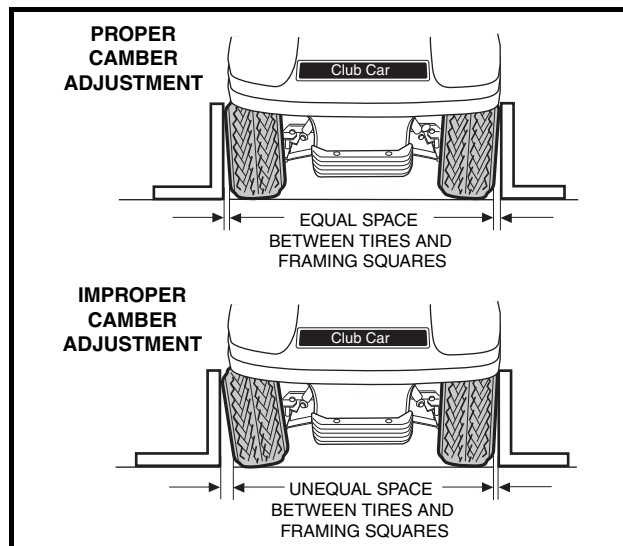
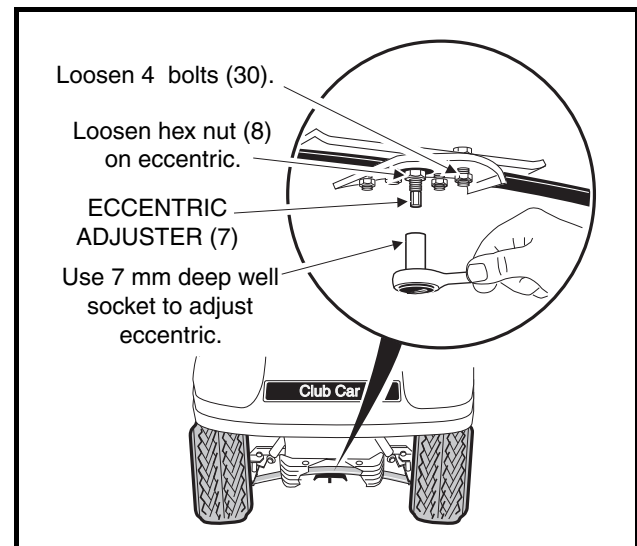
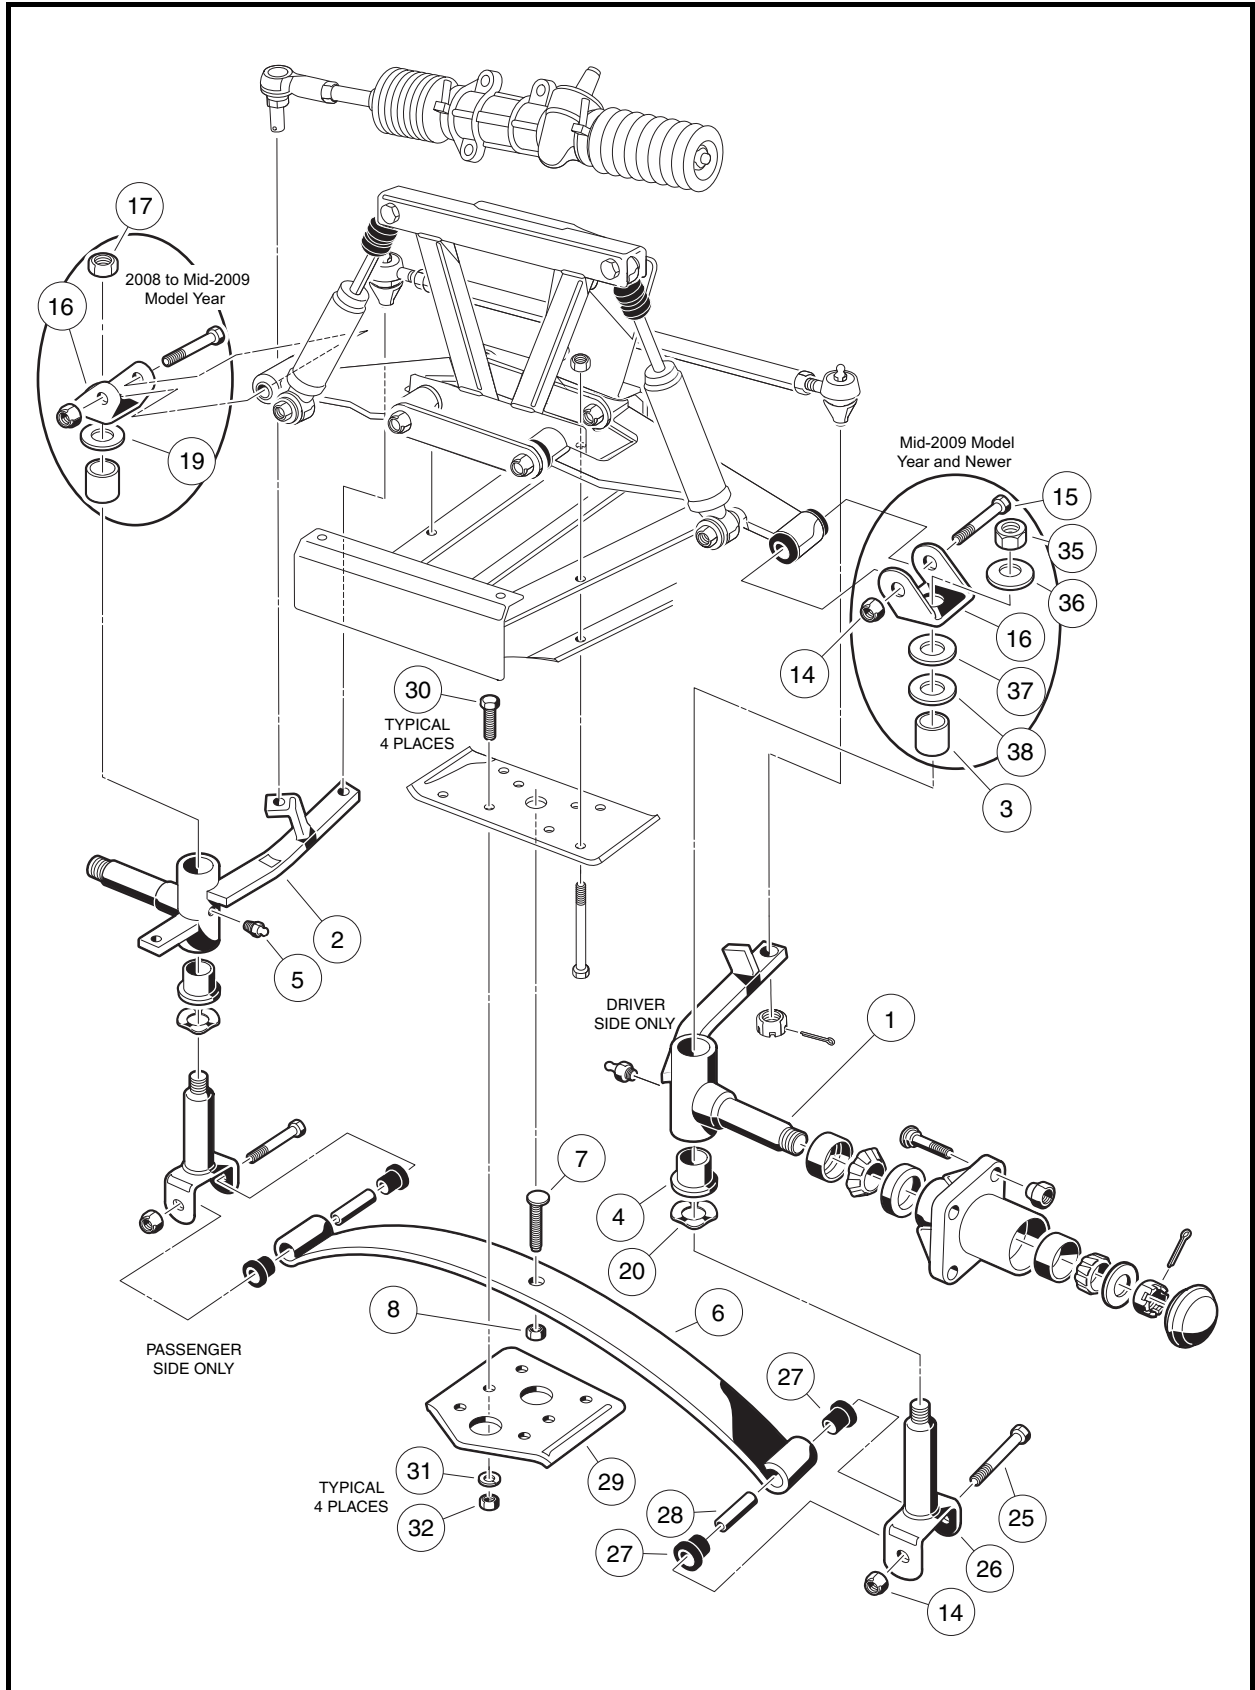
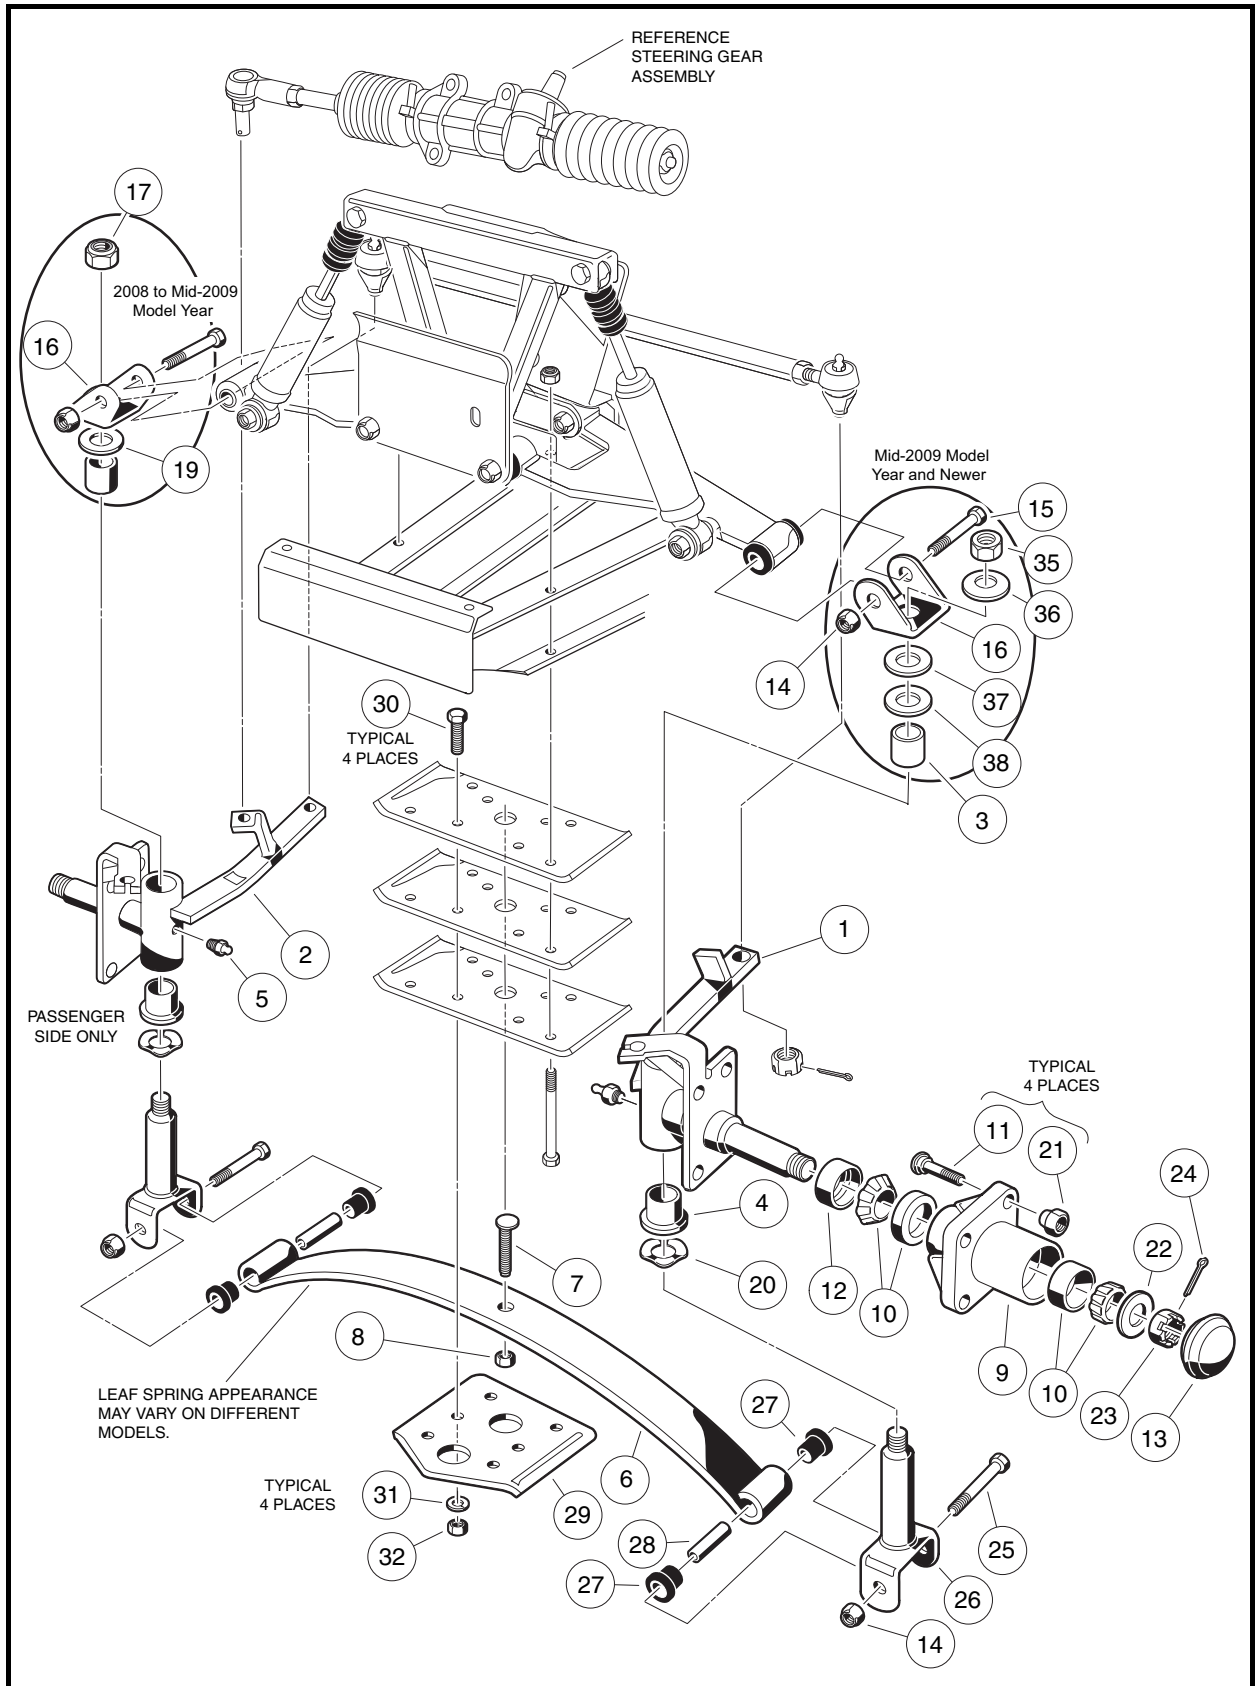

Figure 7-16 Check Camber
Figure 7-17 Adjust Camber
Figure 7-22 Two-Wheel Brake Vehicle – Lower Portion
Figure 7-24 Four-Wheel Brake Vehicle – Lower Portion
1. Check each front wheel with a framing square. At the floor (or ground), there should be an equal amount of space between each tire and the framing square (**Figure 7-16, Page 7-16**).
2. Loosen, but do not remove, the four bolts (30) that secure the leaf spring (6) to the bottom spring plate (29) (**Figure 7-22, Page 7-21 or Figure 7-24, Page 7-23**). See also **Figure 7-17, Page 7-16**.
3. Loosen, but do not remove, the hex nut (8) on the adjustment eccentric (7) (**Figure 7-22, Page 7-21 or Figure 7-24, Page 7-23**) in the center of the spring. **See also Figure 7-17, Page 7-16.**
4. Use a 7 mm deep well socket to rotate the eccentric (**Figure 7-17, Page 7-16**).
5. After adjusting camber, tighten the four spring retaining bolts (30) (**Figure 7-22, Page 7-21 or Figure 7-24, Page 7-23**) to 23 ft-lb (31 N·m). Then roll the vehicle forward one full tire revolution and recheck the camber. **See also Figure 7-16, Page 7-16.**
6. Tighten the hex nut (8) on the adjustment eccentric (7) to 23 ft-lb (31 N·m) (**Figure 7-22, Page 7-21 or Figure 7-24, Page 7-23**). **See also Figure 7-17, Page 7-16.**
3. Remove the nuts (14) and bolts (25) from the bottom of each king pin (26) (**Figure 7-22, Page 7-21 or Figure 7-24, Page 7-23**).
4. Remove the four bolts (30), four nuts (32), four lock washers (31), and bottom spring plate (29).
5. Remove tapered leaf spring (6).
6. Check the condition of the urethane bushings (27) and steel sleeves (28). Replace any that are worn or damaged.
1. Install urethane bushings (27) and steel sleeves (28) into leaf spring eyes (**Figure 7-22, Page 7-21 or Figure 7-24, Page 7-23**).
2. Install tapered leaf spring (6), bottom spring plate (29), four bolts (30), four lock washers (31), and four nuts (32). Using a crisscross pattern sequence, tighten bolts to 23 ft-lb (31 N·m).
3. Install spring in king pins (26) with bolts (25) and nuts (14). Tighten to 23 ft-lb (31 N·m).
- 4.1. Remove the nut (17) from the top of the kingpin (26) (**Figure 7-22, Page 7-21 or Figure 7-24, Page 7-23**).
- 5.1. Remove the nut (35) and conical washer (36) from the top of the kingpin (26) (**Figure 7-22, Page 7-21 or Figure 7-24, Page 7-23**).
2. Install the kingpin (26) over the leaf spring eye. Insert the bolt (25) and install the nut (14) (**Figure 7-22, Page 7-21 or Figure 7-24, Page 7-23**). Tighten the bolt to 23 ft-lb (31 N·m).
3. Install the wave washer (20) and steering spindle on the kingpin.
5. **For 2008 to mid-2009 model years:** Install the thrust washer (19), upper plate clevis (16), and nut (17). Tighten the nut to 40 ft-lb (54.2 N·m).
6. **For mid-2009 model year and newer:** Install the thrust washer (38), hardened flat washer (37), upper plate clevis (16), conical washer (36), and nut (35). Tighten the nut to 63 ft-lb (83 N·m).